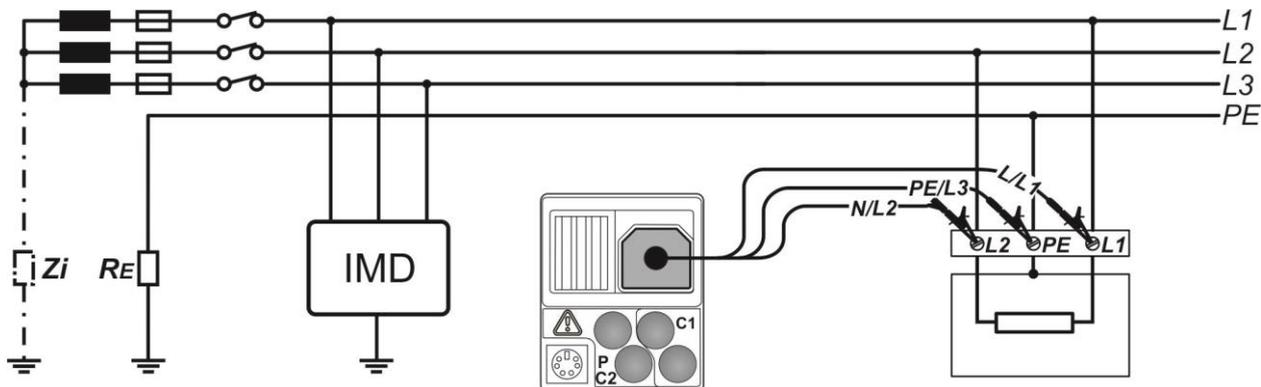

Figure 5.7: Single phase IT line impedance measurement – connection of 3-wire test lead
- ❑ **Connect** test leads to the item to be tested (see Figure 5.7).